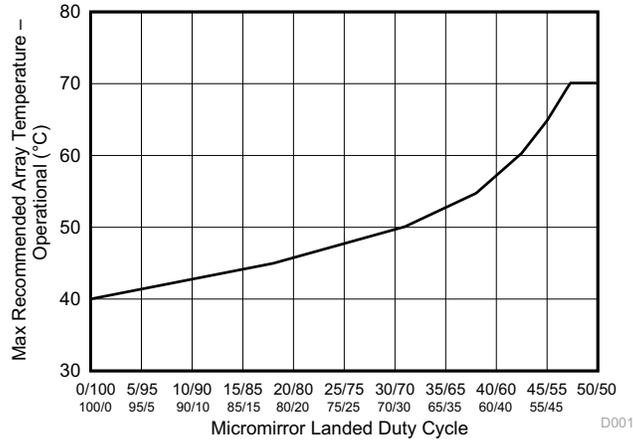

Figure 6-1. Maximum Recommended Array Temperature (Derating Curve)
- (13) Per Figure 6-1, the maximum operational array temperature should be derated based on the micromirror landed duty cycle that the DMD experiences in the end application. Refer to Section 7.7 for a definition of micromirror landed duty cycle.
- (14) Long-term is defined as the usable life of the device
- (15) Short-term is the total cumulative time over the useful life of the device.